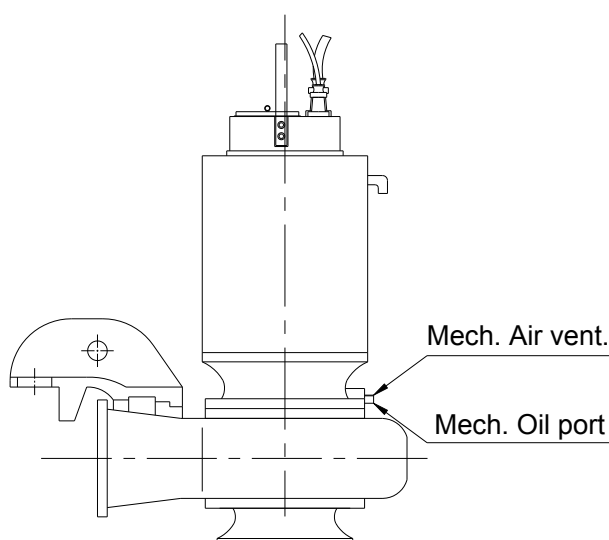

Fig. 7
3.6.1 Oil Supply (Fig. 7, 8 and 9)